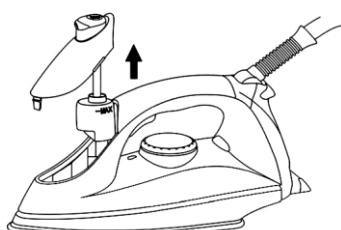

Fig 5
1. Remove the spray button as per fig 5